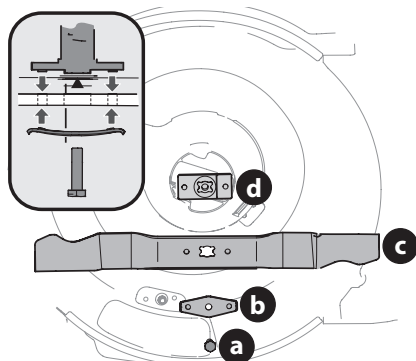

Figure 41
4. Remove bolt (a) and blade bell support (b) which hold the blade and the blade adapter to the engine crankshaft (Figure 41).
5. Remove blade (c) and blade adapter (d) from the crankshaft (Figure 41).
7. Lubricate the engine crankshaft and the inner surface of the blade adapter with light oil (Figure 41, inset).